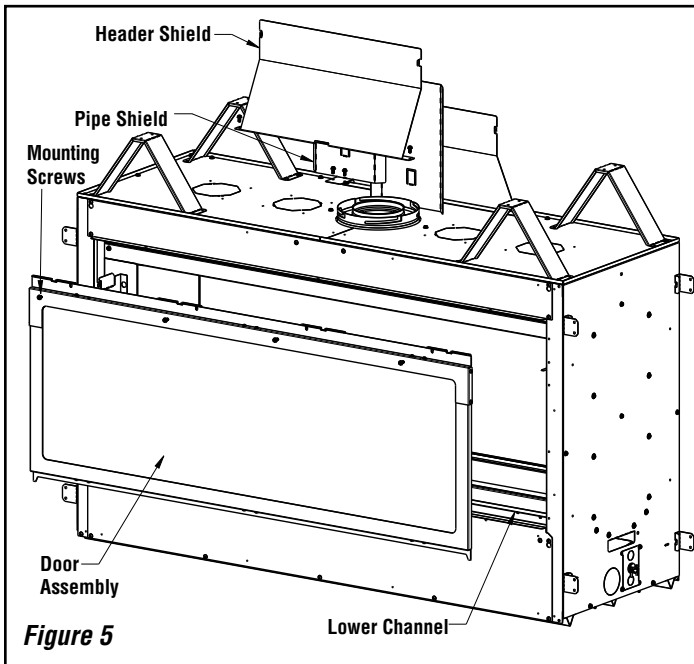

Figure 5
6. Insert the Rear Door Assembly into the lower channel that the rear panel was removed from and fasten the top with four (4) hex head screws. Install the Pipe Shield and then the Header Shield similarly to the front with the supplied hex head screws (see **Figure 5**).